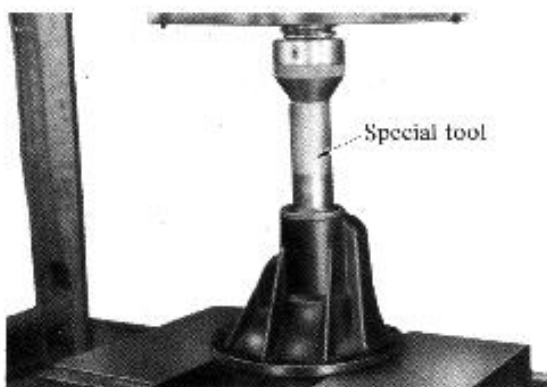

Fig. 10-9
2. Reassembly of the front and rear bearing outer races into the differential carrier necessitates the use of the special tools respectively as shown in the Fig. 10-9. (for front bearing 09913-76010, for rear bearing 09913-85210). When reassembling the outer race into the differential carrier, exercise care to avoid inclination of the outer race in position, or bearing seizure, abnormal noise and abnormal wear will result.